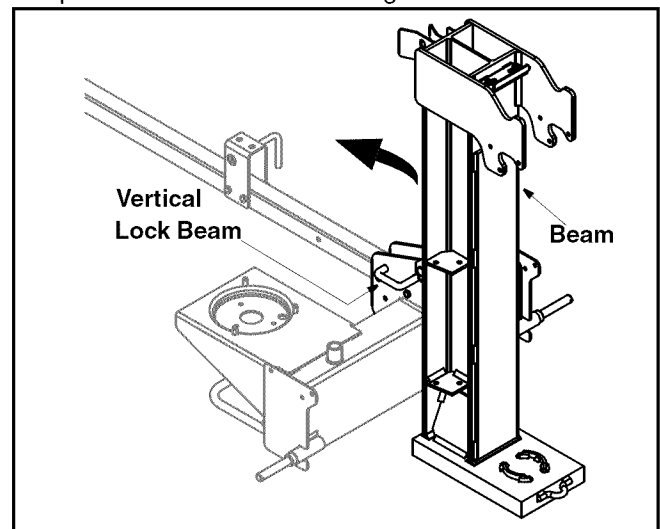

Figure 2
- The log splitter is shipped with the beam in the vertical position. Pull out the vertical lock rod, rotate it back, and pivot the beam to the horizontal position until it locks. See Figure 2.